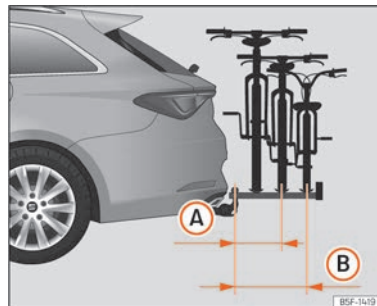

Fig. 199 Schematic representation of the maximum load overhang of a bicycle rack for two or three bicycles.
- (A)** With up to 55 kg load capacity: 500 mm (approx. 19.7 in)
- (B)** With 75 kg load capacity: 700 mm (approx. 27.6 in)
The maximum overhang shall not exceed 500 mm from the centre of the ball head to the centre of the rail of the last support » » » **Fig. 199 (A)** for two-bicycle racks. In the case of three-bicycle racks, the overhang must not exceed 700 mm » » » **Fig. 199 (B)**.